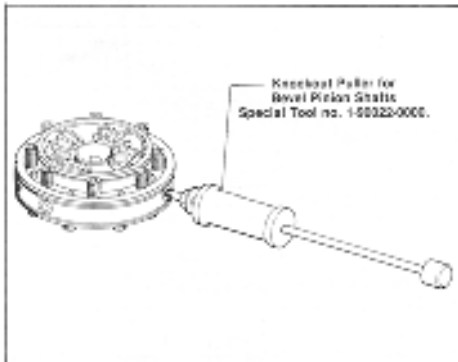

Fig. 22. Removing Bevel Pinion Shaft with Puller.
7. Remove cap screws and locknuts securing pinion shafts in bevel gear carrier and remove bevel pinion shaft with puller. See figure 22.